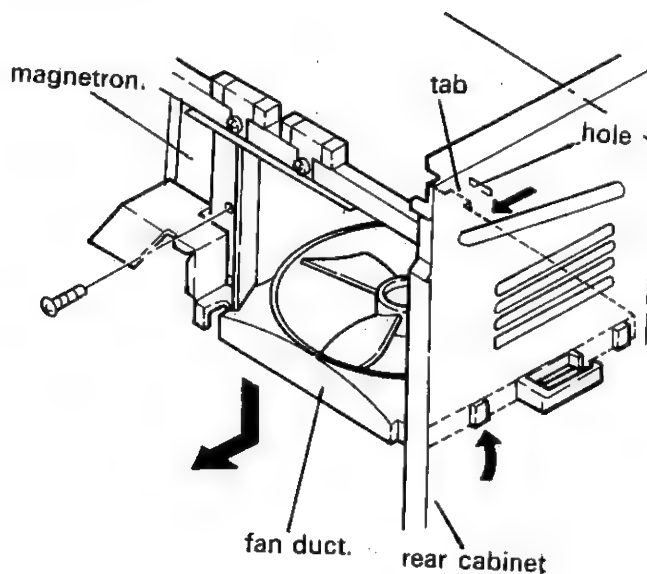

Figure C-2. Fan Duct Removal
5. Remove the single(1) screw holding the fan duct to the magnetron.
6. Release the single (1) tab of fan duct from the hole on the thermal protection cover (Right). (Refer 1 of Figure C-2.)
7. Release the three (3) tabs of fan duct from the three (3) holes on the rear cabinet, and remove the fan duct from the oven. (Refer 2 and 3 of Figure C-2.)
8. Remove the two (2) screws and two (2) nuts holding the fan motor to the fan duct.